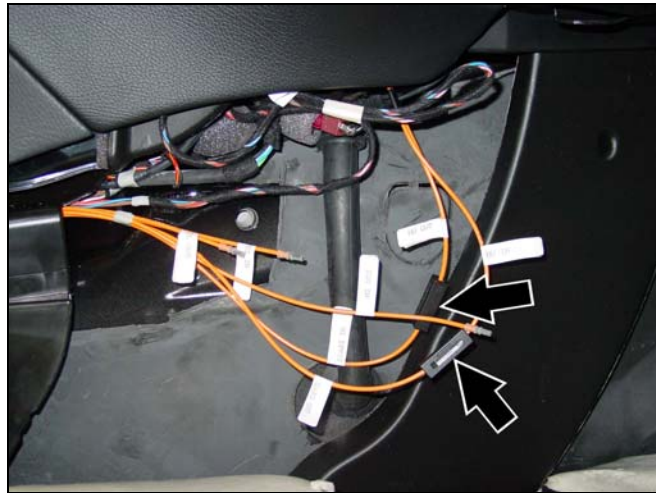

Figure 15
2. At the exposed transmission tunnel area, find the MOST couplings and configure the MOST ring (Figure 15) according to Figure 39.